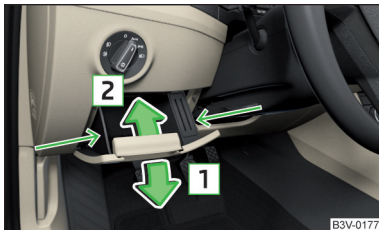

Fig. 266
- Grab hold of the storage compartment in the area of the arrows » Fig. 266.